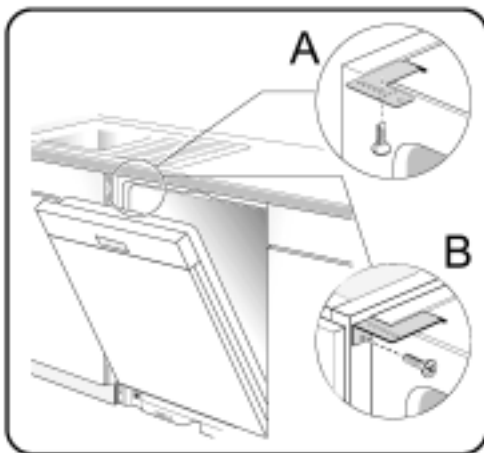

Figure 11/illus. 11
1) **Top Mount** is used for countertops made of wood or other materials that can easily drilled. Orient the mounting brackets as shown in Figure 11, letter A, and position the two small tabs on the mounting brackets over the two slots on the dishwasher's front corners. Push the mounting brackets down firmly to insert the tabs into the slots.
2) **Side Mount** is used for countertops made of marble, granite, or other very hard materials that cannot be easily drilled. Bend the mounting brackets along the small holes and in the same direction as the two small tabs. Orient the mounting brackets as shown in Figure 11, letter B, and position the two small tabs on the mounting brackets over the two slots on the dishwasher's front corners. Push the mounting brackets down firmly to insert the tabs into the slots.